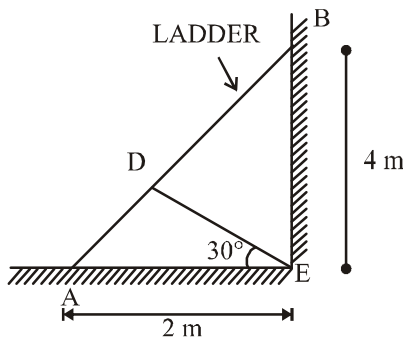

Fig. 1
5. A 750 N man stands on the middle rung of a 300 N ladder as shown in **Fig. 1**. Assuming that the floor and the wall are perfectly smooth and that slipping is prevented by string DE, find the tension in the string and also the reactions at A and B.